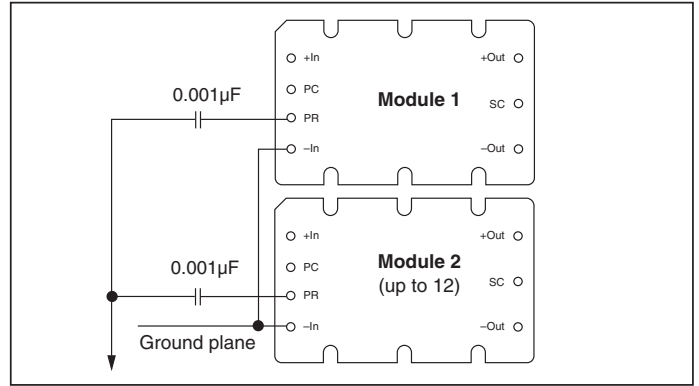

Figure 10—AC coupled single-wire interface.
*AC coupled single-wire interface.* All PR pins are connected to a single communication bus through 0.001 μF (500 V) capacitors. This interface supports current sharing and is fault tolerant except for the communication bus. See Figure 10.